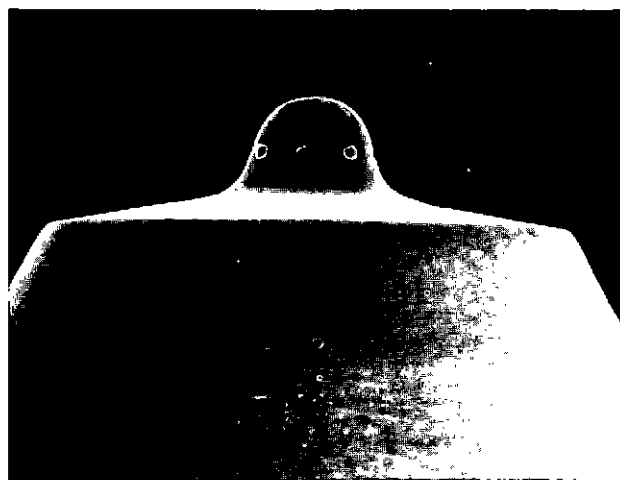

Fig. 2-24, (F60286). Injector cup hole outside surface worn away
2. Many injector cups will show some erosion. The holes can be worn away on the outside surface but the hole size has not changed. The cup tip wall thickness has very little erosion. Reuse these cups, Figs. 2-24 and 2-25.